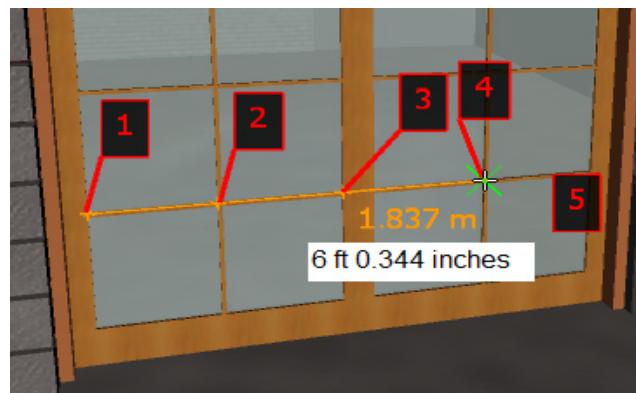
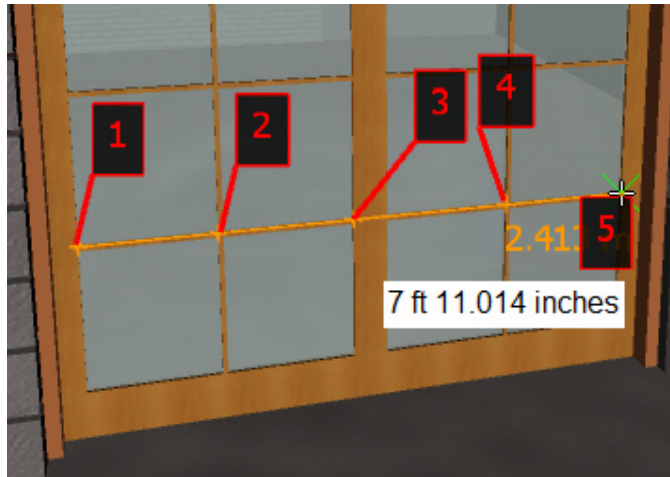

Figure 3-48 Distance calculated between point 1 and 4
Figure 3-49 Distance calculated between point 1 and 5
5. Repeat the procedure followed in step 3 and calculate the distance between point 1 and 4 and point 1 and 5, refer to Figure 3-48 and Figure 3-49.